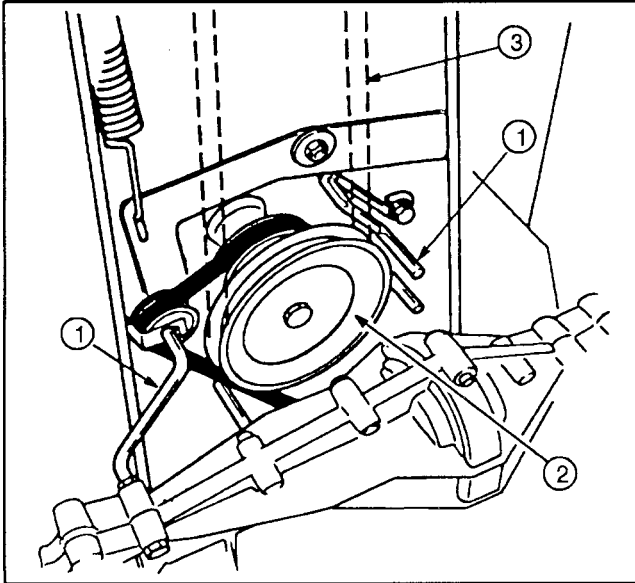

Figure 23
2. Set the height-of-cut control to the lowest setting. Loosen the belt guides near the engine pulley and rotate them out of the way. Remove the belt from the engine pulley (Fig. 23).
3. Loosen and remove (1) mounting screw securing each belt guide to the cutting unit. Pivot the belt guides away from the spindle pulley and remove the belt. Visually inspect the belt for wear or damage (Fig. 23).